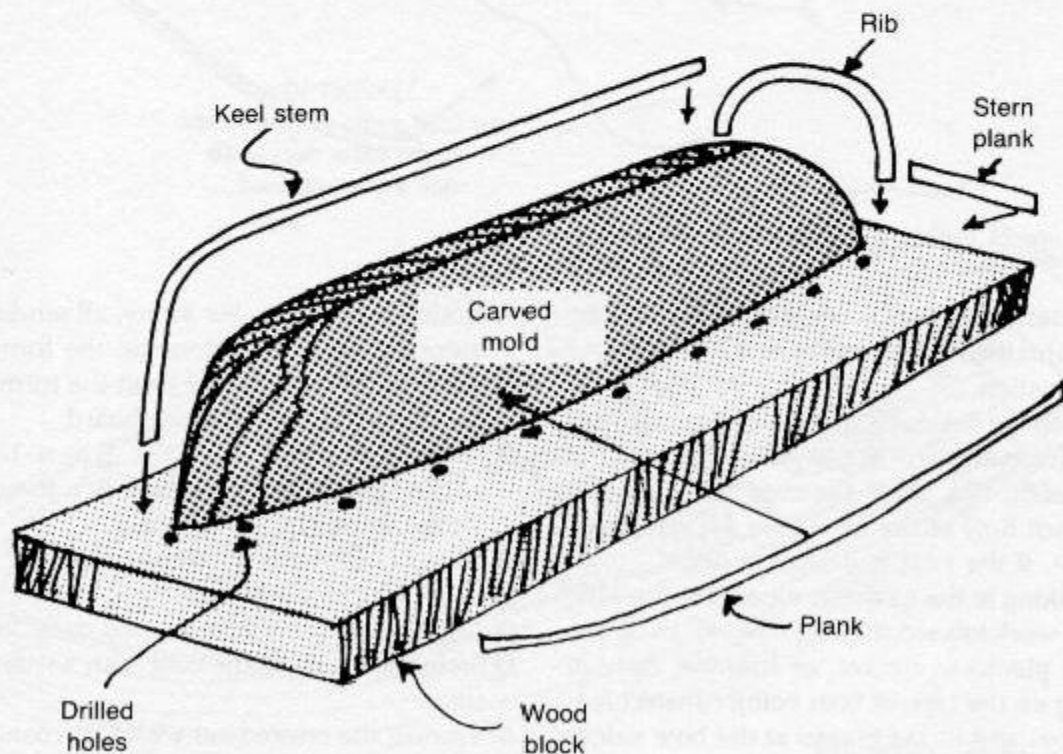

Fig. 11-21. Building a ship's boat over a form (Courtesy of Northshore Deadeyes, Ltd.).
To begin construction, see the overall details in FIG. 11-21. FIGURE 11-22 shows the placement and identification of the parts that are referenced in the instructions.
- ❷ Mount the form in an inverted position on a 1- $\times$ -6- $\times$ -4-inch pine board (FIG. 11-21). Glue at stern and transom. If the mold is for a double-ended boat, block to a level position (keel). (SEE FIG. 11-22, #1.) If your plans call for the construction of more than one boat, you might wish to elevate the form from the wood mounting board.
- ❸ Drill  $1/16$ -inch-diameter holes  $1/2$  inch deep around the circumference of the boat, tangent to the sides at all desired rib locations.
- ❹ Drill a  $3/32$ -inch-diameter hole to a depth of  $1/2$  inch at the bow parallel to the rake of the stern.
- ❺ Soak and preshape  $1/32$ -inch basswood ribs over the mold form. Place the ends well into the predrilled  $1/16$ -inch rib holes. Keep the ribs tight to the form. If you do not plan to make other boats using this jig, you may glue the ends into the holes.
- ❻ On square-sterned boats, the aftmost rib must extend  $1/64$  inch beyond the form. (See #2.)